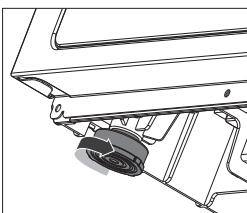

Figure 1: Rotate the foot to the bottom and tighten
- Rotate the four feet of the dryer to the bottom and tighten (As shown in Figure 1).
When using the drying support, install it as shown in Figures 1 and 2.